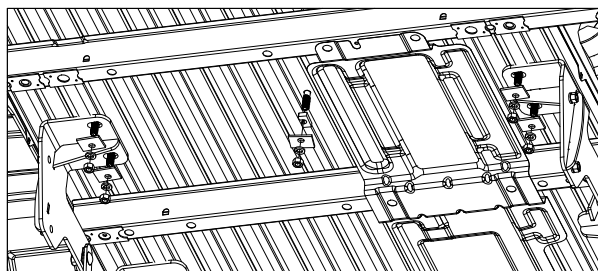

Figure D2: View under bed from rear of truck. (Frame & U-bolts not shown.)
- 2. Install hardware on rear mounting rail.** Under the bed install an offset square washer, 1/2" lock washer, and 1/2" finish nut on each of the carriage bolts. See Figure D2. Place the U-shaped spacer. Hand tighten hardware.